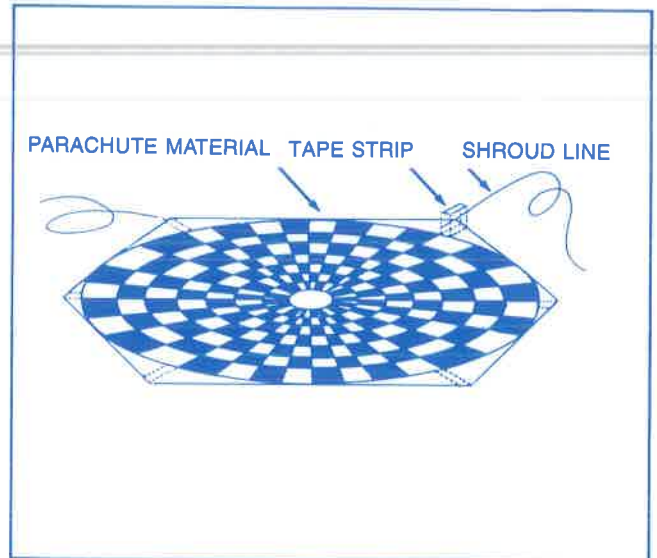

Fig. 9. Parachute.
- In the parachute recovery system (see fig. 9), a timed charge deploys a small parachute, which gently lowers the rocket to the ground. Most large rockets use this type of recovery system, and many have two parachutes. When you fold the parachute, grasp the center of the parachute between two fingers and pull the material back to form a spike. Fold this spike into a rectangular bundle and wrap the attached shroud lines around it.